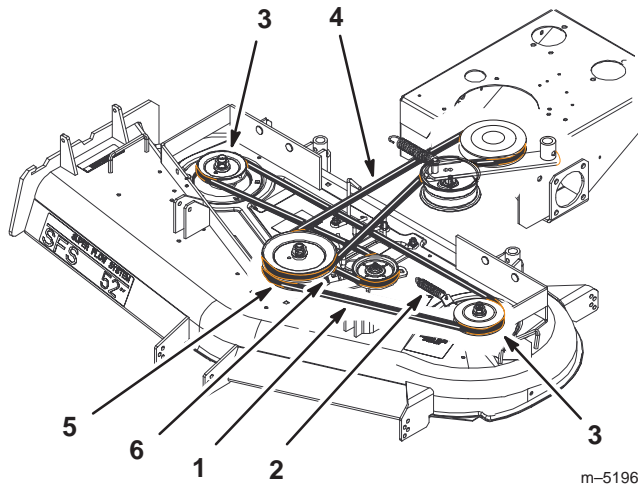

Figure 61
5. Disconnect the idler arm spring to relieve tension on the idler arm and idler pulley, then remove the worn deck belt (Fig. 61).
6. Install the new deck belt around the two outside spindle pulleys, the idler pulley, and in the lower groove of the center spindle pulley (Fig. 61).
7. Connect the idler arm spring (Fig. 61).
11. Adjust deck belt guide an 1/8 in. (3 mm) from belt (Fig. 61).